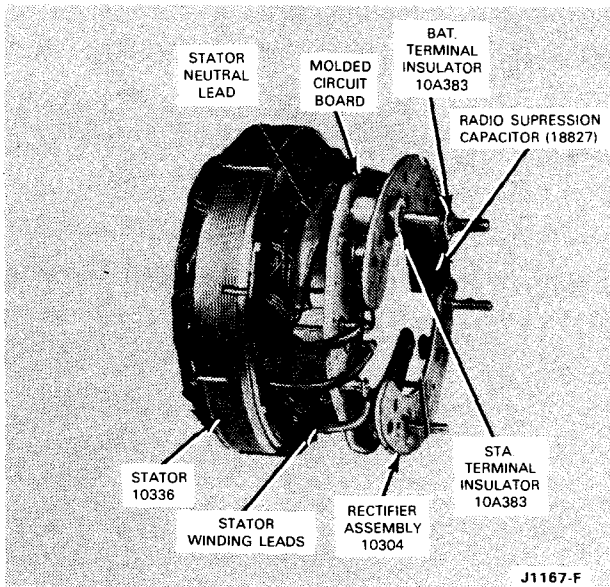
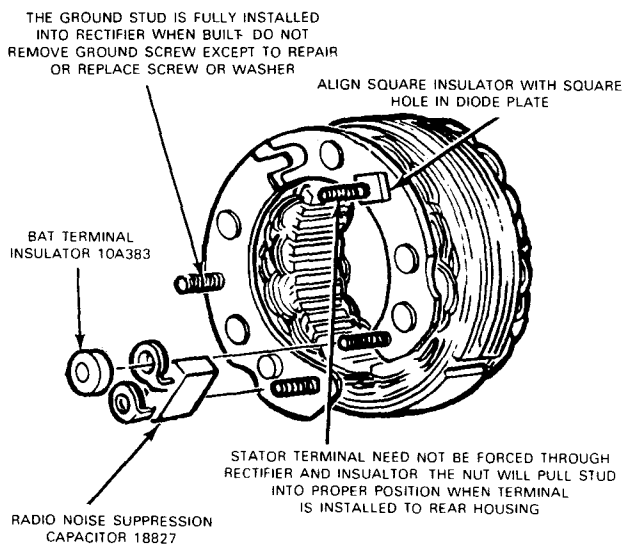

FIG. 21 Stator Lead Connections
FIG. 22 Terminal Insulators — Fiber Glass Circuit Board
Position the stator neutral lead eyelet on the stator terminal screw and install the screw in the rectifier assembly (Fig. 21).
11. Position the radio noise suppression capacitor on the rectifier terminals. On the circuit board with exposed diodes, install the STA and BAT terminal insulators (Fig. 21). On the single circuit board, position the square hole in the rectifier assembly (Fig. 22) on the BAT terminal.